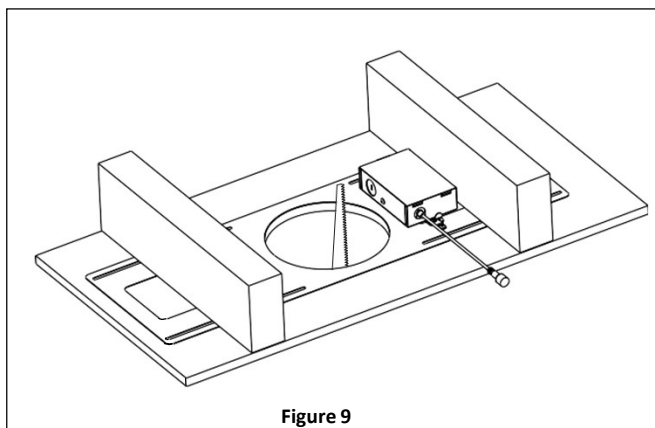

Figure 9
3. Install sheetrock over the frame. Cut out the hole and proceed to install the fixture. **See Figure 9.**